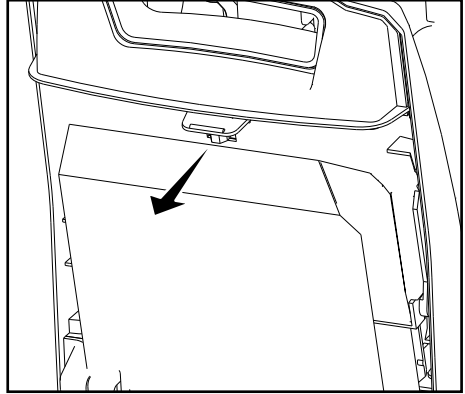
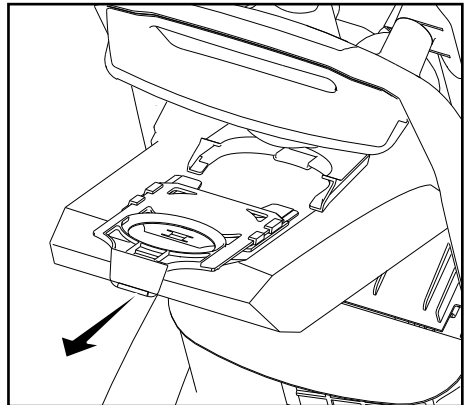

Fig. 1
Fig. 2
- Remove the used vacuum bag by pulling the red bag collar tab away from the vacuum (Fig. 1). Slide the used bag out of the holder which automatically seals the bag (Fig 2). Discard the used bag.